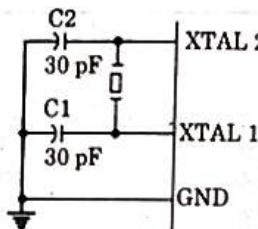

Fig. 4.10.2.
- The quartz crystal connected to XTAL1 and XTAL2 needs two capacitors of 30 pF value. One side of each capacitor is connected to ground as shown in Fig. 4.10.2.